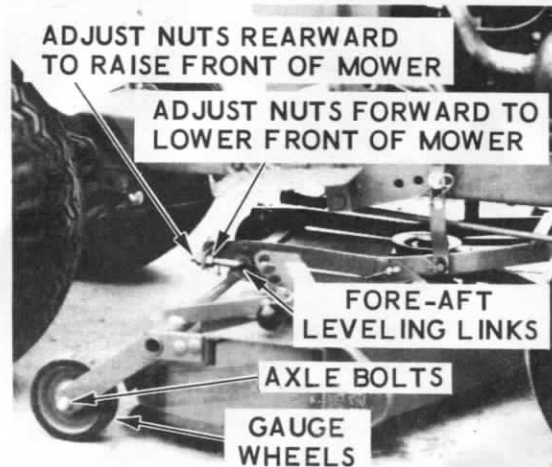

Figure 7.
5. Mower Fore-Aft Leveling Links: See Figure 7.
6. Mower Side To Side Leveling: See Figure 7.
7. Mower Gauge Wheels: See Figure 7.